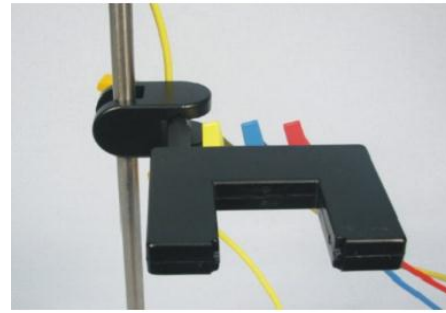

Figure 2.18: Adjusting the light barrier.
- 6- Mount the light barrier horizontally under the clamp at a distance d , as shown in Figure 2.18. Check that the falling ball will cut the beam of the light barrier when falling.